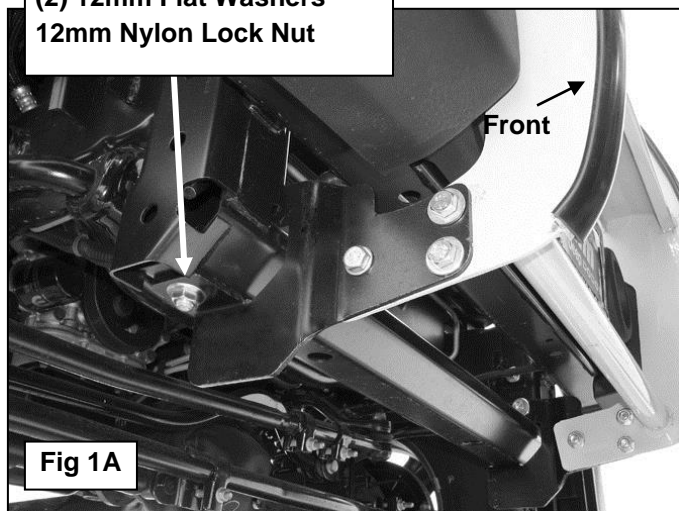
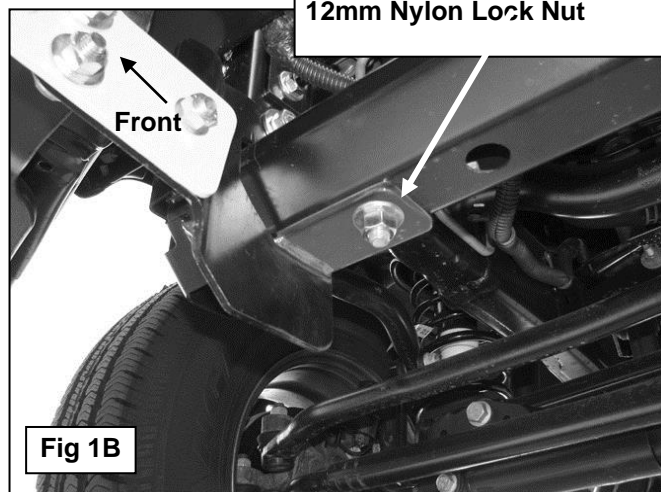
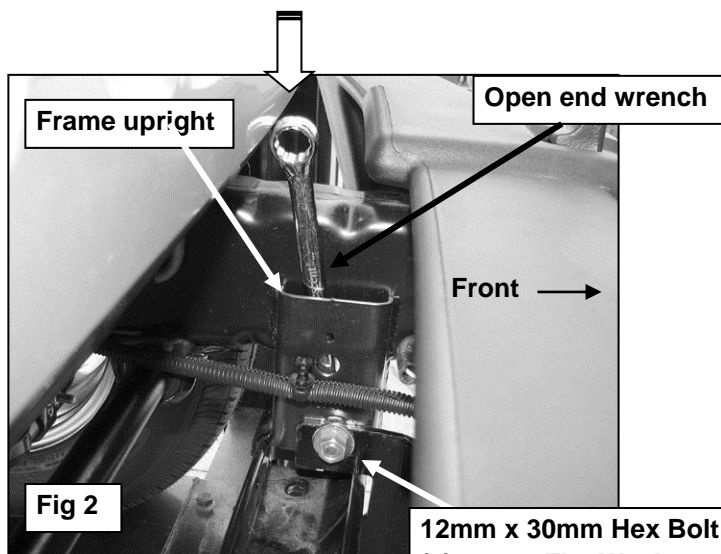

Fig 1A
Fig 1B
Fig 2
- Select the passenger side Frame Mounting Bracket. Bolt the Frame Mounting Bracket to the bottom of the crossmember with (1) 12mm x 30mm Hex Bolt, (2) 12mm Flat Washers and (1) 12mm Nylon Lock Nut. **NOTE: 07-09 models** will use the outer mounting location (**Figure 1A**), and **2010-12 models** will use the inner mounting location, (**Figure 1B**). Insert (1) 12mm x 30mm Hex Bolt, (2) 12mm Flat Washers and (1) 12mm Nylon Lock Nut through the upper tab on the side of the Mounting Bracket upright and tighten hardware at this time, (**Figure 2**). Repeat this step to install the driver side Frame Bracket, (**Figure 1C**).